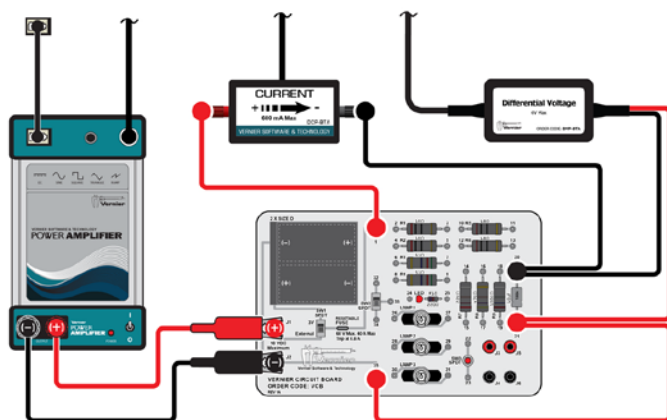

Figure 2
1. Set up the circuit with a $10\ \mu\text{F}$ capacitor in series with a current probe, as shown in Figures 2 and 3. The Voltage Probe will measure the potential difference across the capacitor plates.